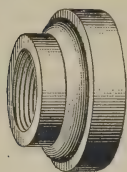

FIG. 31
**46.** A **reducing coupling** is shown in Fig. 31. This is usually made of cast iron in the larger sizes and of malleable iron in the smaller sizes. The coupling shown is made of cast iron. It consists of a short sleeve with a large opening and a small opening, each tapped to suit the different sizes of pipes to be connected together. An **eccentric, or offset reducing**